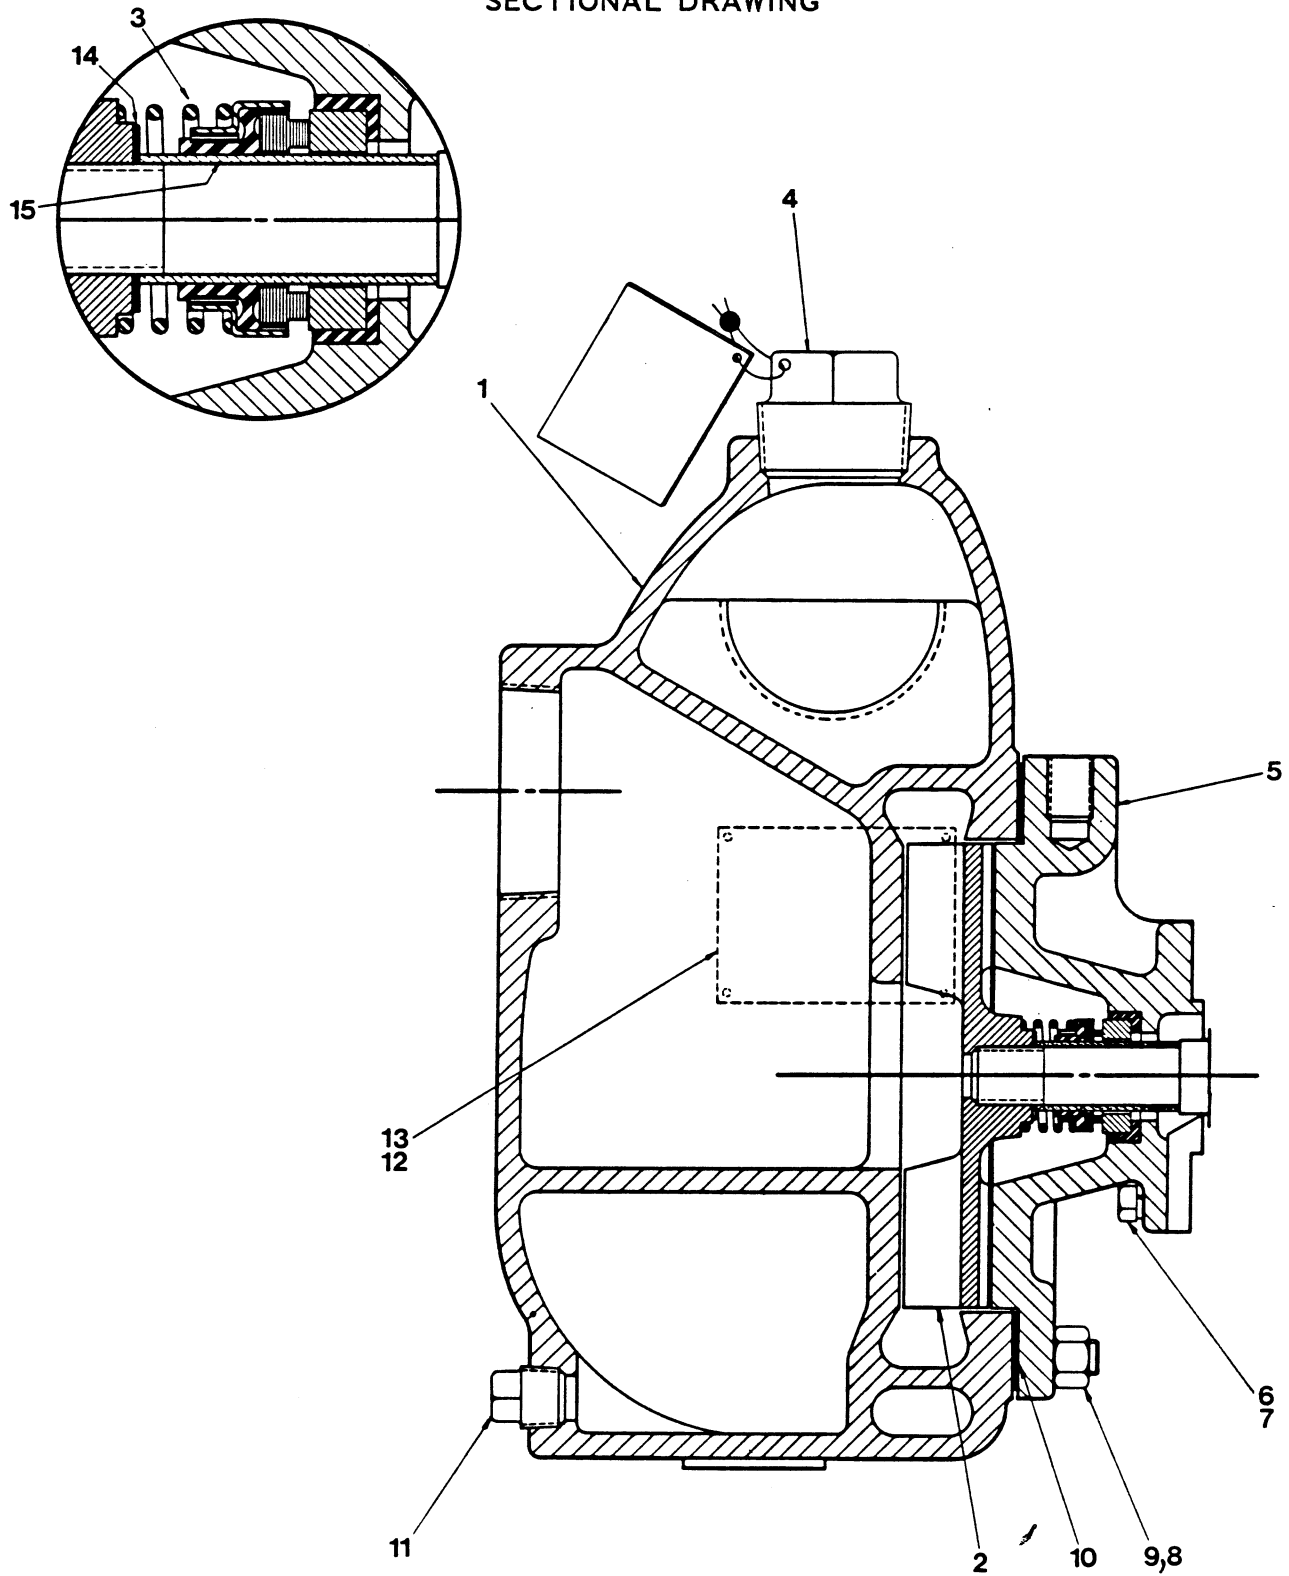

Figure 2. Pump End Assembly 82K3
(Figure 2)
**(Figure 2)**
**(Figures 2 and 3)**